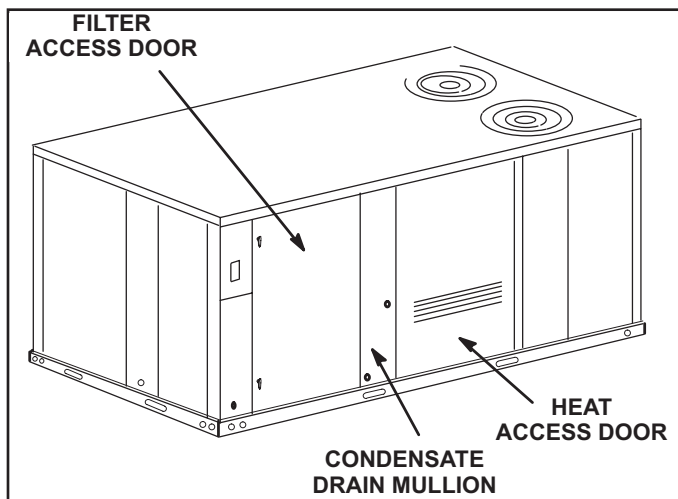

FIGURE 5
- 1 - Remove heat access door. See FIGURE 5.